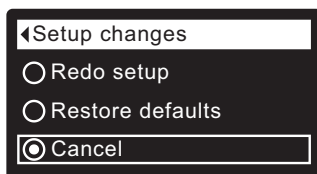

FIG. 85
1. From any of the rolling status screens, press the SELECT (O) button to display the **Main menu**.
3. Press the SELECT (O) button to display the Advanced settings menu.
5. Press the SELECT (O) button to display the Troubleshooting menu.
7. Press the SELECT (O) button to display the Setup changes menu (See Figure 85).
8. Press the RIGHT (►) button. The flashing padlock icon will disappear, as shown in Figure 85.
9. Press the SELECT (O) button.